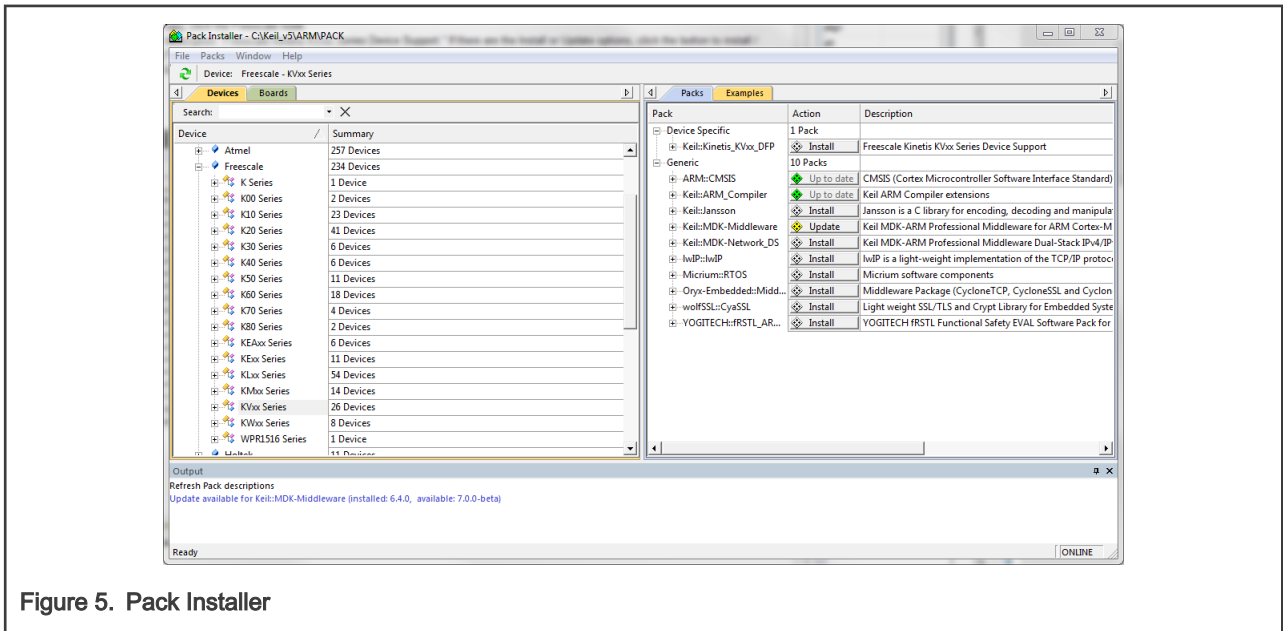

Figure 5. Pack Installer
6. Look for a node called "Keil::Kinetis\_KVxx\_DFP." If there are the Install or Update options, click the button to install/update the package. See Figure 5.